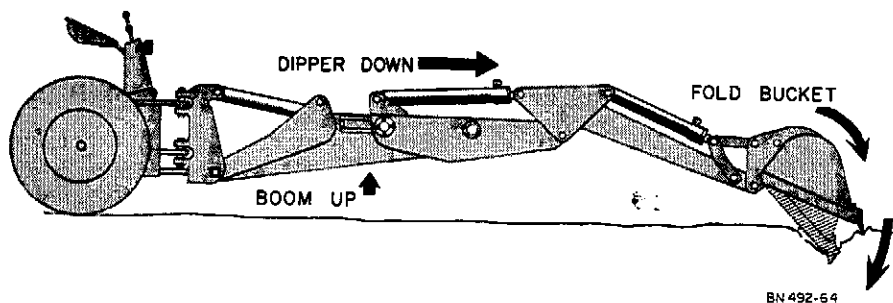

Figure 5 - Extending the Boom
5. The boom can now be extended by folding the bucket under (Figure 5).